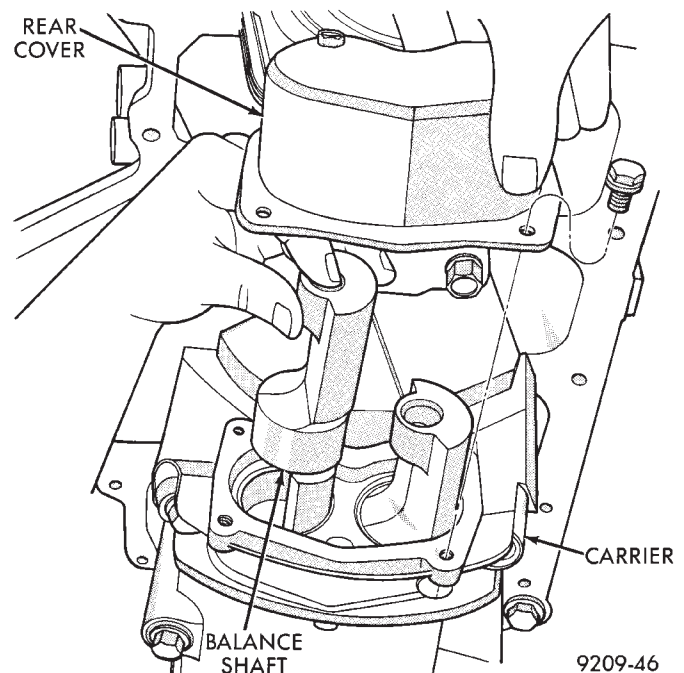

Fig. 38 Balance Shaft(s)—Removal/Installation
(1) With balance shafts installed in carrier (Fig. 38) position carrier on crankcase and install four attaching bolts and tighten to 54 N·m (40 ft. lbs.).